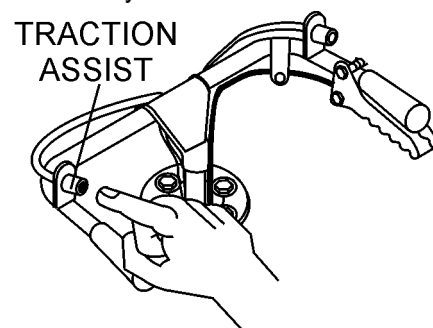

Figure 20. Traction Assist Switch
1. Press and hold the traction assist switch (Figure 20) on the left hand side of the handle bar to engage the traction assist system.